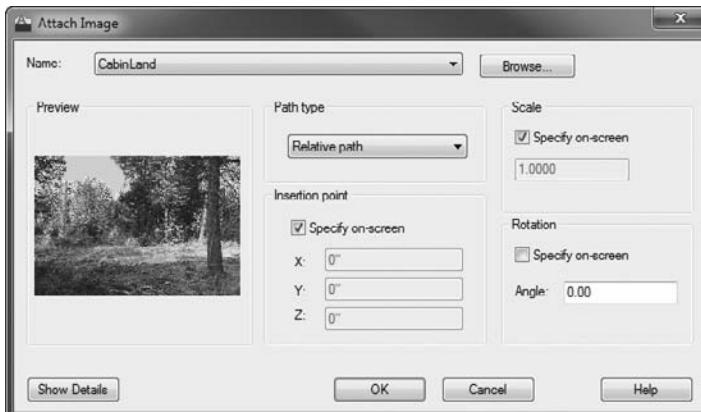

FIGURE 13.30 Select Relative Path and the path type in the Attach Image dialog box.
4. The Attach Image dialog box that opens is similar to the External Reference dialog box that you saw earlier in this chapter. Select Relative Path for the path type. Check the Specify On-Screen options for both Scale and Insertion point (see Figure 13.30), and then click OK.